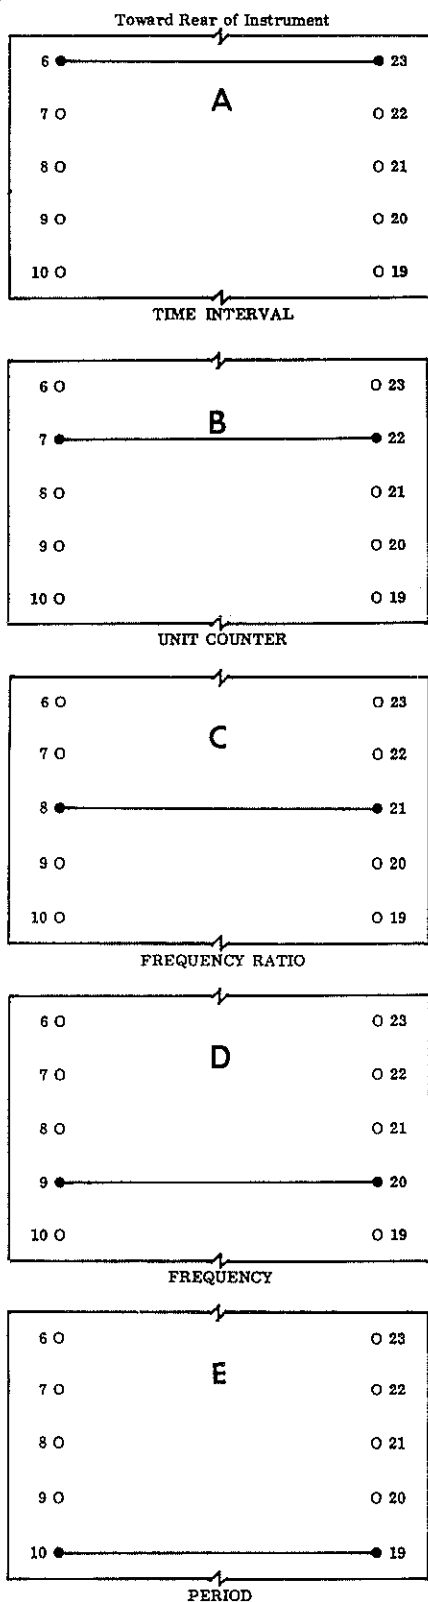

Figure 4. Function Selection
Function Selection. Jumper between pins of program header as shown in figure 4"B".
Function Selection. Jumper between pins of program header as shown in figure 4"D".
Function Selection. Jumper between pins of program header as shown in figure 4"E".
Function Selection. Jumper between pins of program header as shown in figure 4"C".
Function Selection. Jumper between pins of program header as shown in figure 4"A".
2. Jumper between pins of program header as shown in figure 4"D".